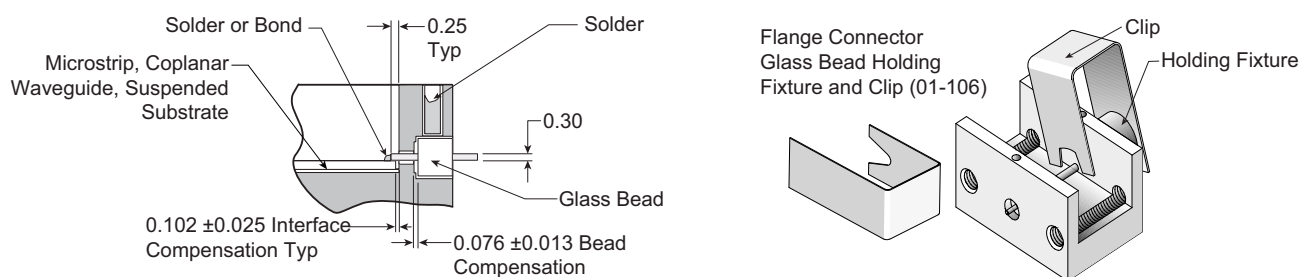

Figure 8-3. K104F-R or EK104F-R Glass Bead Assembly
1. Install the microstrip into the housing (see Figure 8-3 for dimensional tolerances around the glass bead).
3. Flux the glass bead and insert it, long-end first, into the 01-103 Glass Bead Holding Fixture (Figure 8-3).
5. Secure the holding fixture in place by using the spring clip furnished with the fixture (Figure 8-3). Position the spring clip so as not to obstruct the solder access hole in the housing. Ensure that the glass bead is centered and that it is making good contact with the microstrip.